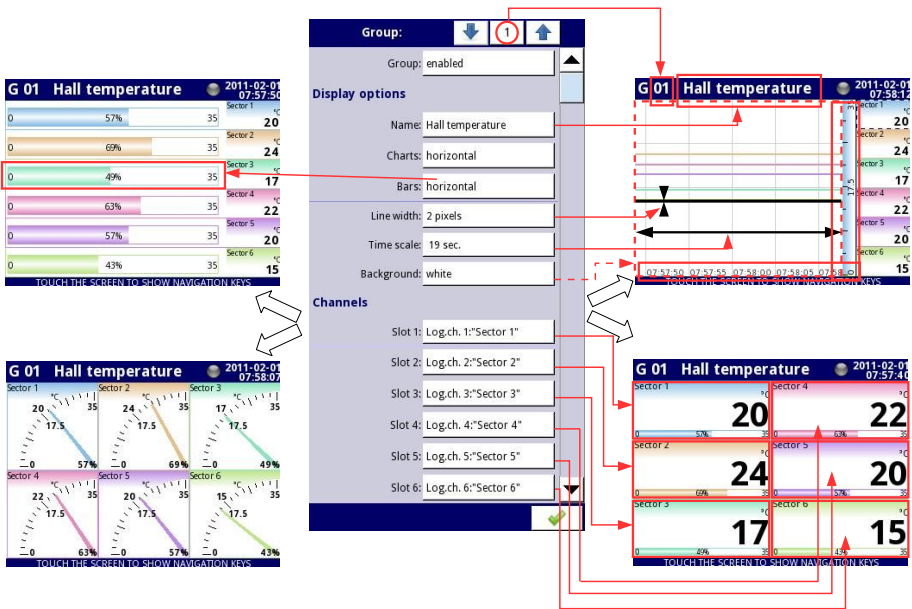
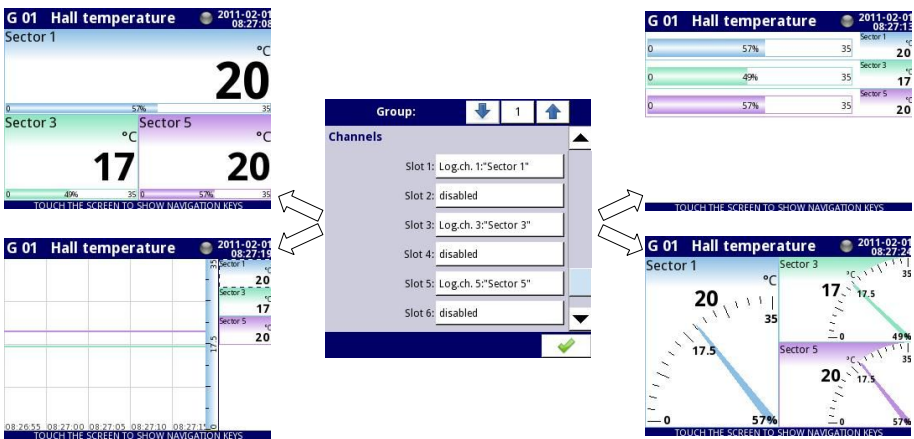

Fig. 7.137. Sample of **Group** parameters settings - all Slot set to **Logical channel**
Fig. 7.139. Sample of **Group** parameters settings - Slots set to **Logical channel** and set to **disabled**
- **Slot 1÷6** - in each slot the user can select an option (see Fig. 7.137÷Fig. 7.139):